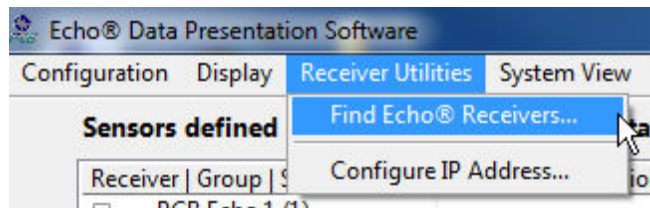
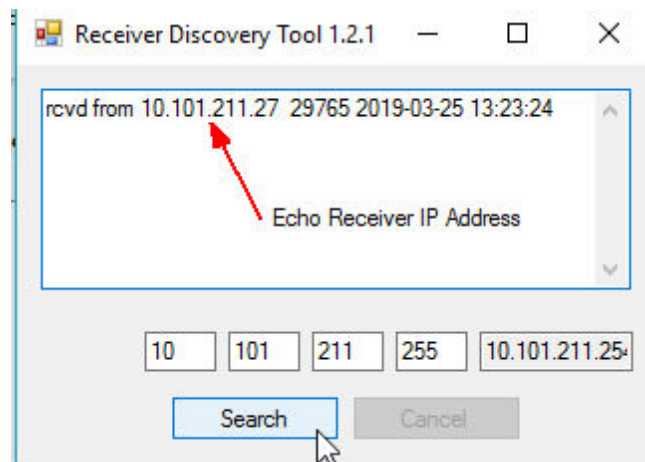

Figure 98 – Echo® Receiver Utility Menu Items
Figure 99 – Echo® Receiver Discovery Utility
- The preferred method is to run the **Echo® Receiver Discovery Tool** (Receiver Utilities | Find Echo Receivers...) from the main menu bar - Figure 98. The screen shown in Figure 99 below will appear. Clicking 'Search' should reveal the Echo® receivers, their assigned IP address and their internal unit ID. Enter the IP address seen here in the IP Address field of the Echo® Receiver Connection Parameters found on the main Echo® software screen. The ID is marked on the receiver itself so positive identification can be made. The utility will start with the 1st 3 octets set to the same values as the PC's IP address and 255 in the last one. If this fails to find the receiver then change the 3rd octet to 255 and try again.